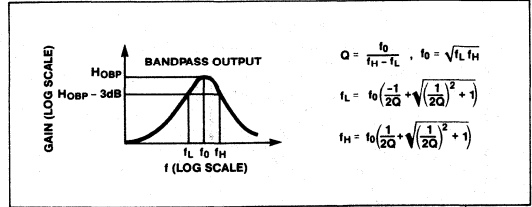

Figure 1. Bandpass Filter Terminology
- HOBP:** The gain in V/V of the bandpass output at f=f0. See Figure 1.